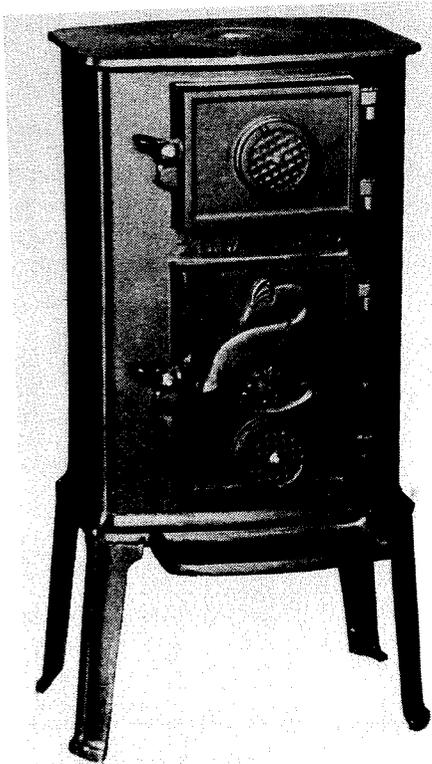

Fig. 37. Lange coal stove 6304RA.
8. **Scandinavian Stoves, Inc.** (importer), Box 72—Rt. 12-A, Alstead, NH 03602. The Lange (Fig. 37 and Table 4) can be used with coal, coke, or charcoal. This Scandinavian coal stove has been tested extensively and has achieved high efficiency. The front door is embossed with a peacock, and the body of the stove comes in red, blue, green, brown, or black enamel. Spin-wheel draft controls are located at two levels.